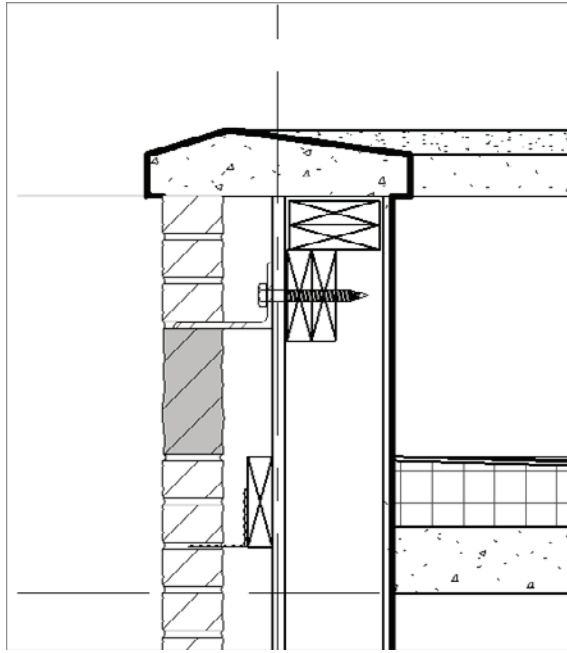

FIGURE 12.43 Copy the blocking as shown.
6. Copy the blocking down to double it, as shown in Figure 12.43.
7. Copy and rotate blocking to the positions shown in Figure 12.43, to allow for support of the lag bolt.
9. Compare your detail to Figure 12.43.